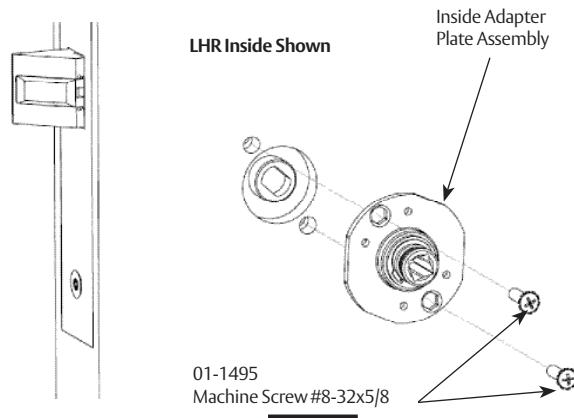

Figure 24
Install inside adapter plate assembly using two (2) machine screws. (Figure 24)